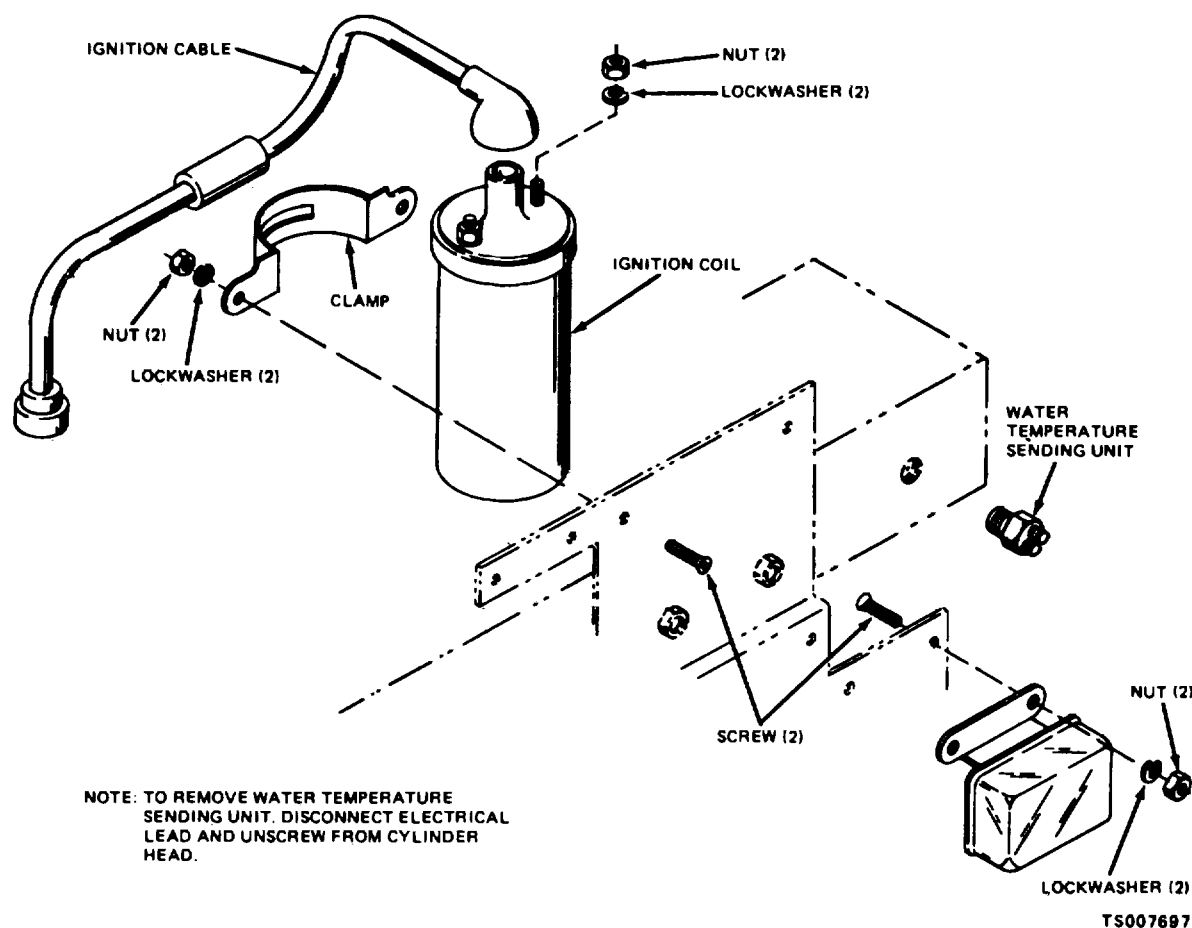

Figure 4-24. Ignition Coil, Removal and Installation
(1) Tag and disconnect the electrical leads from the ignition coil. Remove the ignition coil as shown in figure 4-24.
c. *Installation.* Install the ignition coil as shown in figure 4-24. Reconnect the electrical leads to the ignition coil.